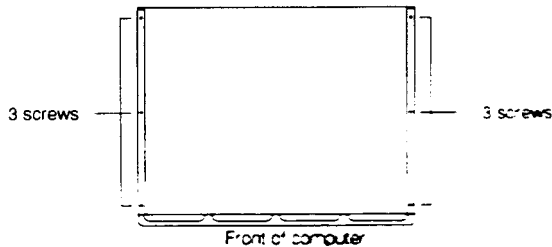

Figure 1 A5000 top cover, fixing screws
- 3 Remove all six screws holding the metal wrap in place (see Figure 1: A5000 top cover fixing screws). Store them somewhere safe.